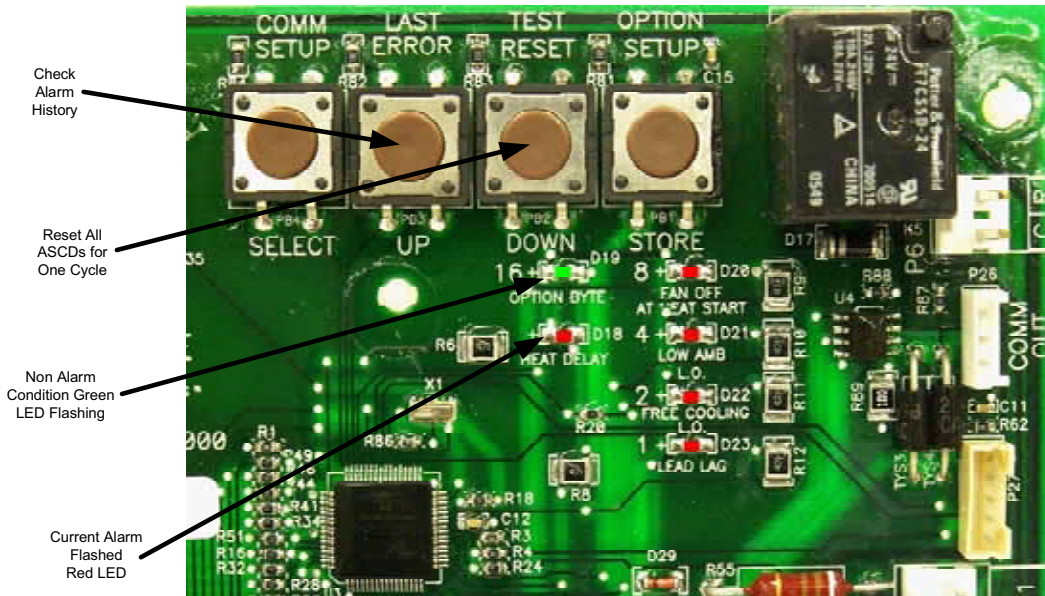

Figure 29: Unit Control Board
Alarm condition codes are flashed on the UCB lower left Red LED, See Figure 29. While the alarm code is being flashed, it will also be shown by the other LEDs: lit continuously while the alarm is being flashed. The total of the continuously lit LEDs equates to the number of flashes, and is shown in the table. Pressing and releasing the LAST ERROR button on the UCB can check the alarm history. The UCB will cycle through the last five (5) alarms, most recent to oldest, separating each alarm flash code by approximately 2 seconds. In all cases, a flashing Green LED will be used to indicate non-alarm condition.